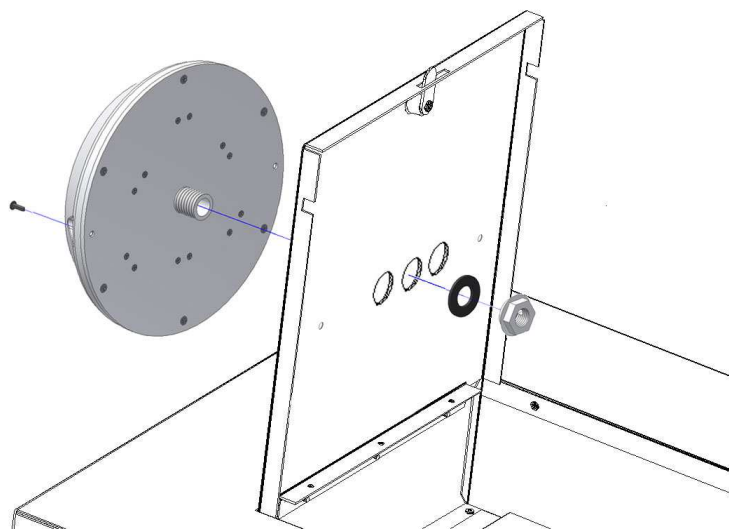

Figure 2 - Installation of Cisco Antenna.
Step 2 – Install Cisco 2.4 GHz/5 GHz AIR-ANT2451NV-R MIMO antenna by inserting the cables through the 1" dia. hole in the center of the cover. After the cables have been pulled through the door, place rubber gasket on and thread the plastic nut that comes with the antenna until tight. After the antenna is secured by the plastic nut, use the two plastic push pin fasteners to make sure the antenna stays in place by pushing them firmly into the holes on the antenna and into the enclosure door. *Figure 2.*